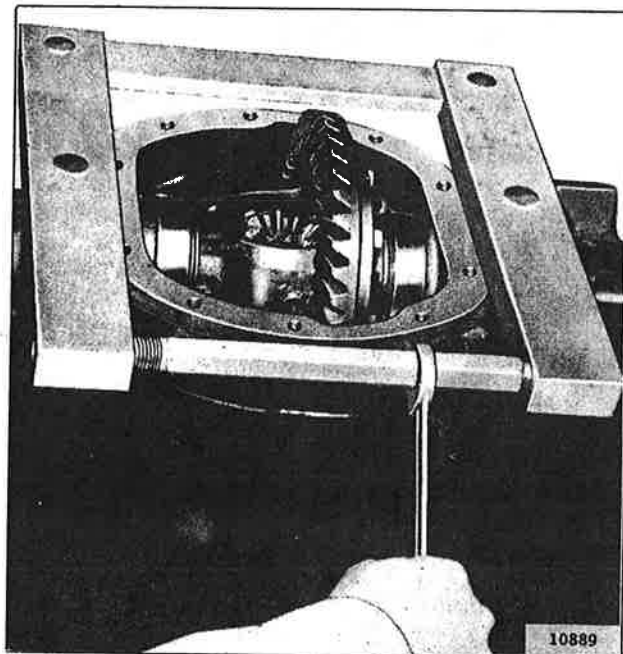

FIG. 239—DIFFERENTIAL CARRIER SPREADER
- c. It is necessary to spread the carrier as the differential bearing has initial preload. Use Housing Spreader Tool W-129, as shown in Fig. 239, to spread the housing. Clamp on a dial indicator. From the side, measure the carrier spread. When the spreading force is applied, do not exceed a limit of .020" [0,50 mm.]. Remove the dial indicator. Carefully pry the differential case loose, using pry bars at the heads of the ring gear bolts and carrier casting.